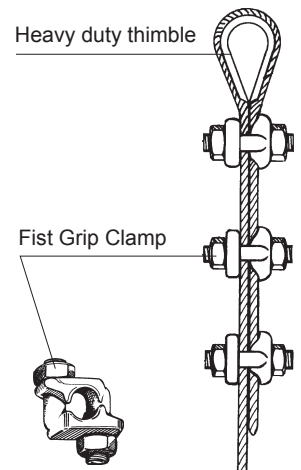

Figure 17 Suspension Distance
(4) Insure that the anchor points of the wire rope are directly above the position of the hoists (Fig. 17).